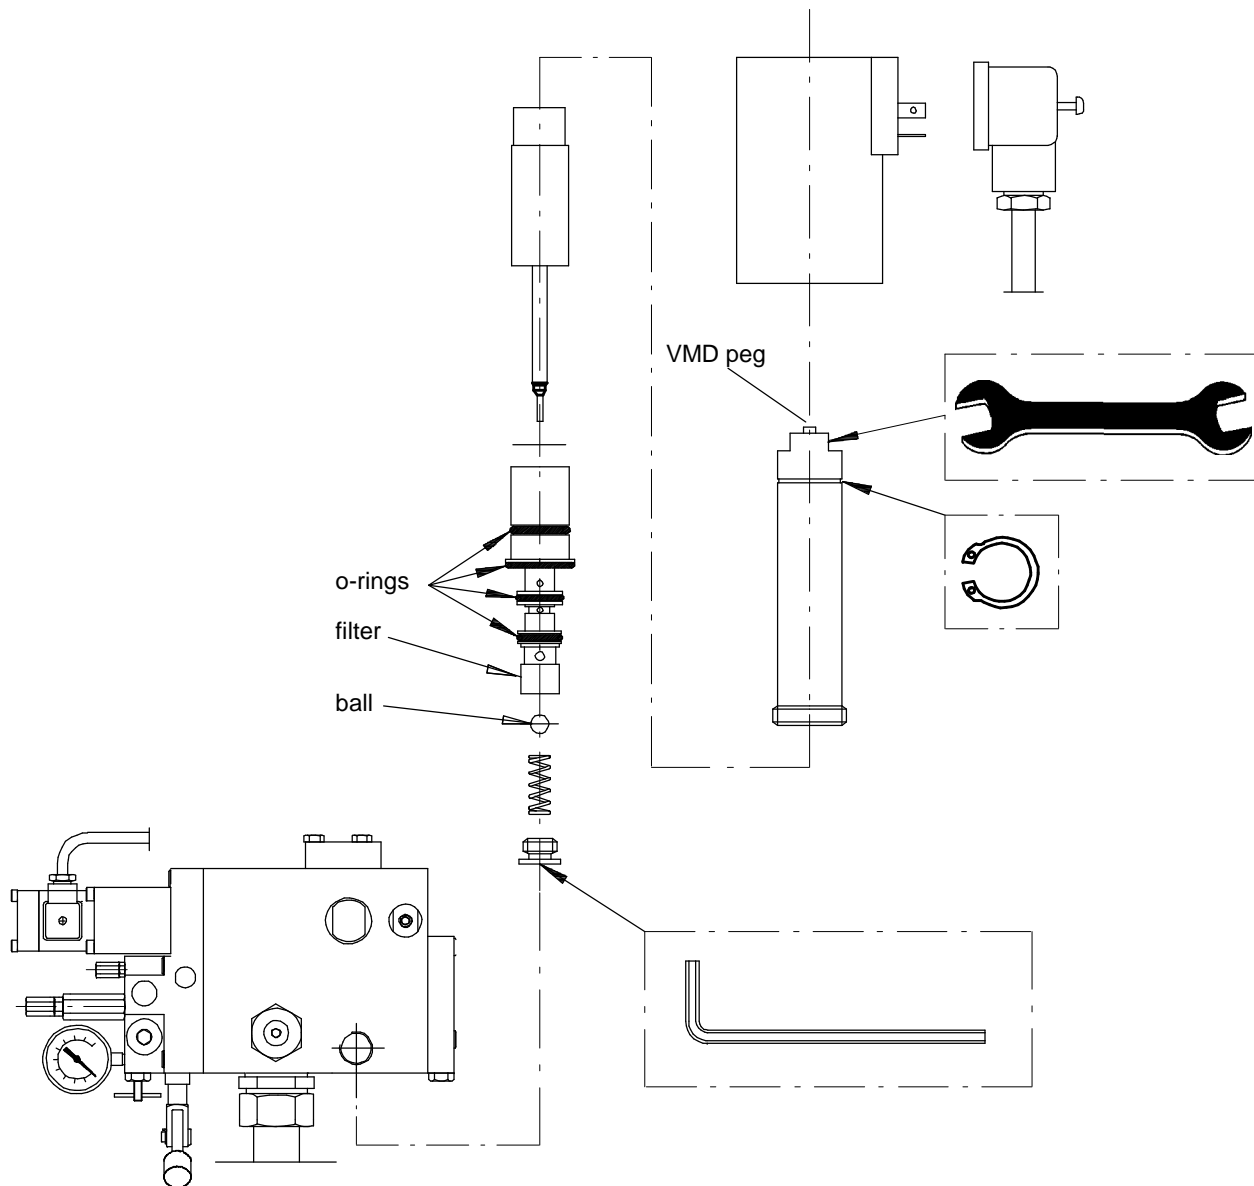

Fig. 10.7 Dismantling of the solenoid valve VMD
3. Remove the VMD valve according to Fig. 10.7.